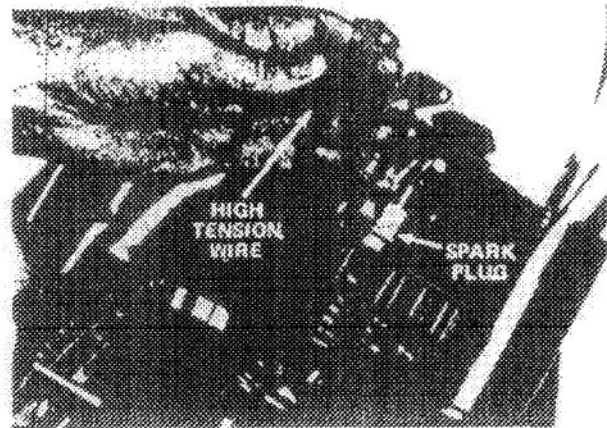

Figure 22.
5. Pull high tension wire off spark plug and remove plug from cylinder head (Fig. 22).
7. Push high tension wire onto spark plug (Fig. 22).